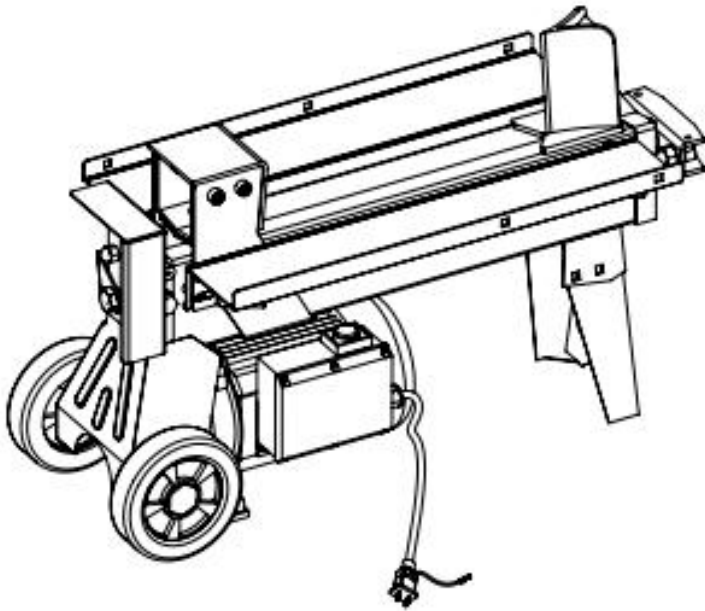

Figure 1a
2.Use the same wrench to connect 1pcs M8x16 semicircle head square neck bolts (no.11) through the hole centers of 1pcs flat washers 8(no. 12) and 1pcs left reinforcing rib (no.13) and 1pcs right support plate respectively, and tighten the connection with the corresponding screw hole seat on the working table. Then make 1pcs M8x16 semicircle head square neck bolts (no.11) successively through the hole centers of 1pcs flat washers 8(no. 12) and 1pcs right reinforcing rib (no.13) and 1pcs right support plate(no.6) respectively, and tighten the connection with the corresponding screw hole seat on another side of working table.. See figure 1a,1b.